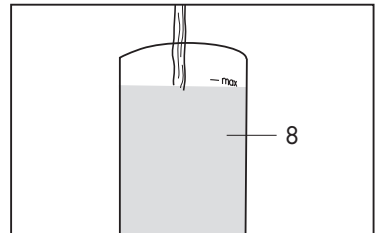

Fig. 2
- Fill the tank until the indicated maximum level is reached (MAX). (Fig.2)